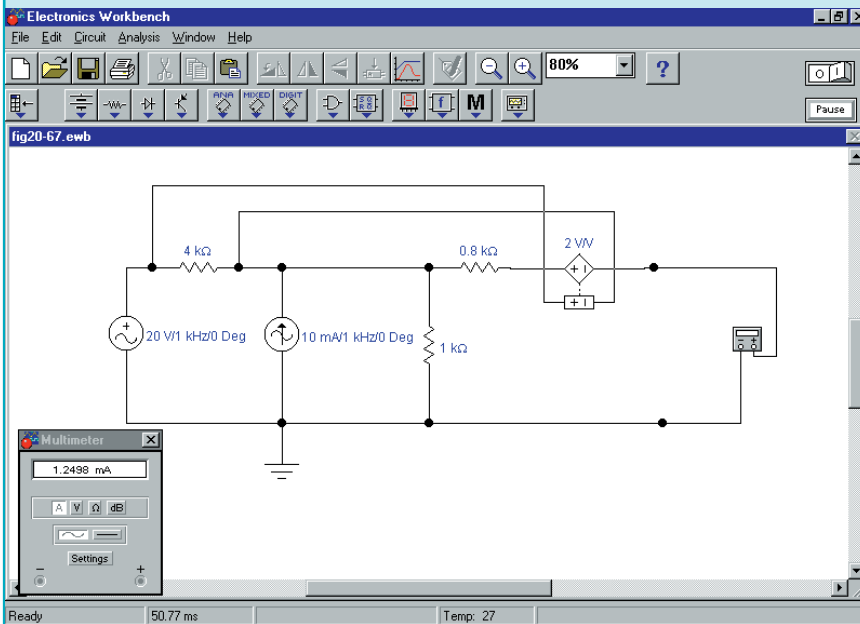

FIGURE 20–67
We use 1 kHz as the frequency of operation, although any frequency may be used. The Voltage-controlled voltage source is selected from the Sources parts bin and the gain is adjusted by double clicking on the symbol. The Value Tab is selected and the Voltage gain (E): is set to **2 V/V**. The multimeter must be set to measure ac volts. As expected, the reading on the multimeter is 4 V. Current is easily measured by setting the multimeter onto its ac ammeter range as shown in Figure 20–67. The current reading is 1.75 mA. A limitation of Electronics Workbench modeling is that the model does not indicate the phase angle of the voltage or current.
Use PSpice to find the Thévenin equivalent of the circuit shown in Figure 20–45. Compare your answer to that obtained in Practice Problems 5.
Use Electronics Workbench to find the Thévenin equivalent of the circuit shown in Figure 20–45. Compare your answer to that obtained in Practice Problems 5 and Practice Problems 9.